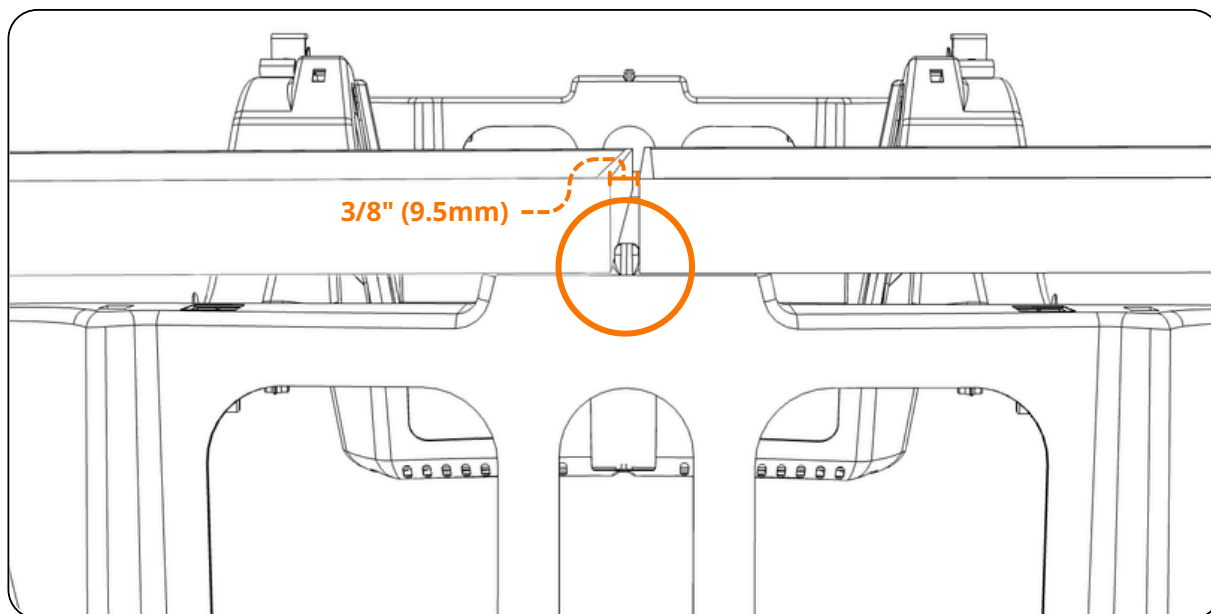

Fig. 11 Center Spacer
4. Torque the connection nut to **20–25 ft-lbs ($\approx 27\text{--}33\text{ N}\cdot\text{m}$)**. The mechanical anchor is installed between two adjoining FR510-6 units. See Fig.11 below.